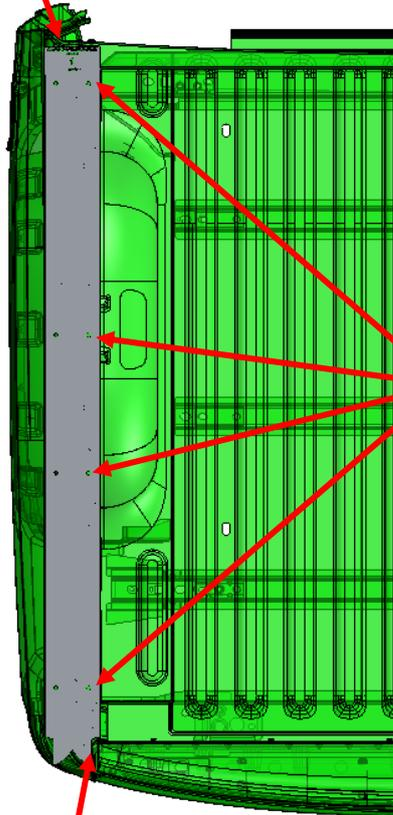

Fig. 2.3.2
- Locate the relevant holes on the template then mark the hole positions onto the load bed edge using a marker. Fig. 2.3.2